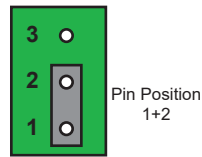

Figure 4 J3 — Default Position
- **Pin 1** (bottom) + **Pin 2** (center) — In this position, the reference is terminated with a 75ohm resistor. This configuration is to be used for point-to-point cabling, or on the last card of a daisy chain topology. This is the default position. Refer to **Figure 4** for pin positions.